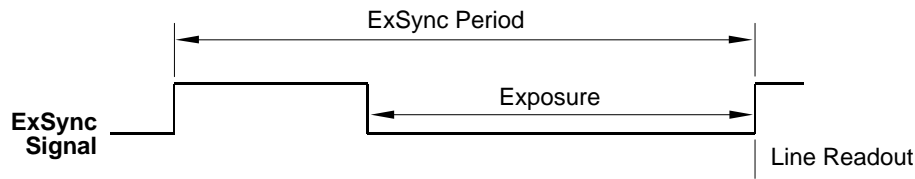

Fig. 27: ExSync Level Controlled Mode
- In **ExSync level controlled** mode, line acquisition begins on the rising edge of the ExSync signal. The exposure time is determined by the time between the falling edge of ExSync and the next rising edge. The pixels are exposed and charge is accumulated only when ExSync is low. The pixel values are read out of the sensor on the rising edge of the ExSync signal (see Figure 27).